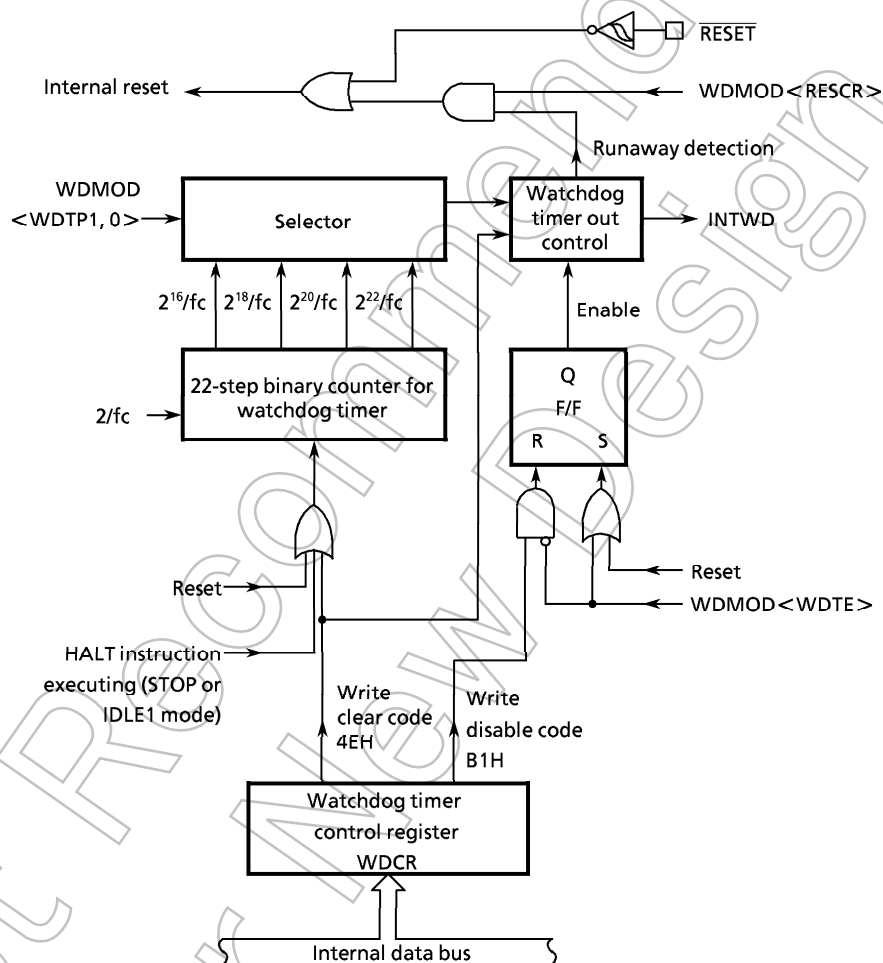

Figure 3.12 (1) Watchdog Timer Block Diagram
In addition, the runaway detection result can be used for a forcible reset of the microcontroller itself. The watchdog timer consists of a 22-step binary counter with $2/f_c$ as the input clock, and a control block. Figure 3.12 (1) is a block diagram of the watchdog timer (WDT).